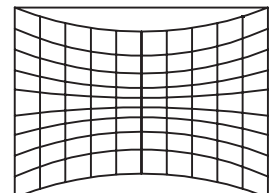

Fig. 3
4. Press [INPUT] key and select the cross-hatch pattern. (Fig. 3)